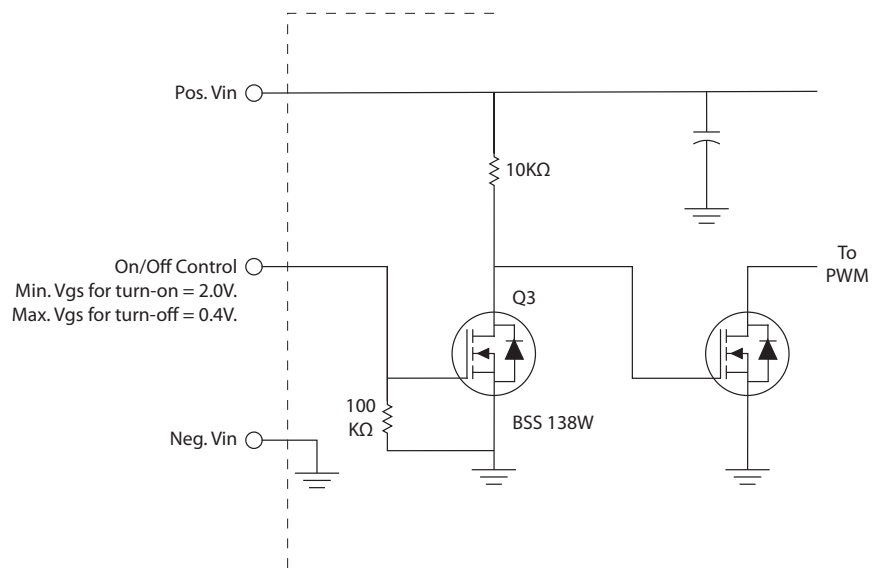

Figure 6. On/Off Control Circuit for “E” Models
**“E” Model External Enable On/Off Control (see fig. 6)**